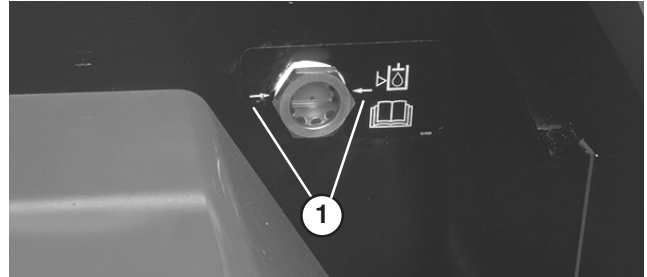
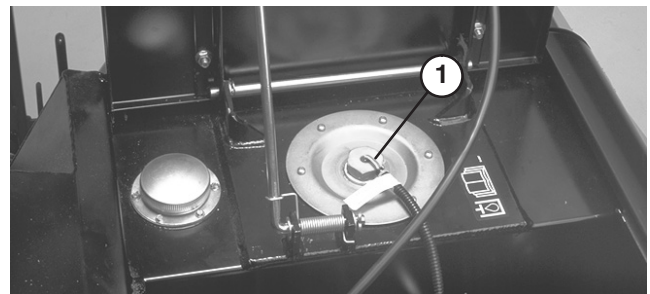

Figure 38
Figure 39
With machine on a level surface, hydraulic oil level should be 1/4 to 1/2 inch below arrows on sight glass, when oil is cold. Warm oil should be even with arrows on sight glass (Fig. 38). If level is low, add hydraulic oil.
2. Clean around reservoir cover (Fig. 39). Remove cover and add hydraulic oil until it is even with arrows on sight glass (Fig. 38). Refer to Checking the Hydraulic Oil.
4. With cutting units up and oil warm, look into sight glass (Fig. 38). If hydraulic oil is not even with arrows, add enough to raise to proper level. Do not fill full if oil is cold.
6. Look into sight glass (Fig. 38). Hydraulic oil level should be even with arrows when oil is warm. If level is low, add hydraulic oil to the reservoir.